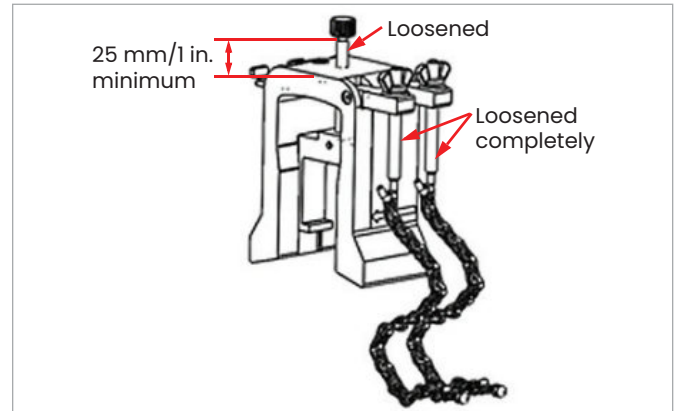

Figure 35: Loosened yoke screw and J-hooks
1. Loosen the yoke screw at least 25 mm/1 in. (all the way for pipes <50 mm/2 in.) and loosen the J-hooks all the way (see *Figure 35* below).